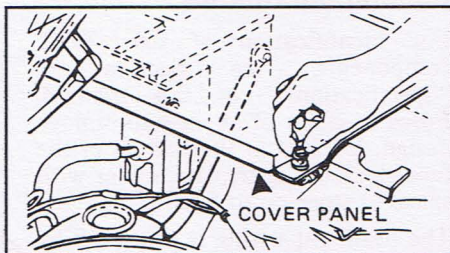

Figure 1 - RH side of rear compartment
2. Remove the two thumb screws holding the battery cover panel to the body and lift the panel out. See Figure 1.